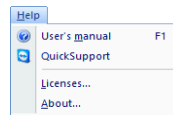

Figure 47 – Help menu
- **Help** – displaying the application version, installing licenses and browsing the electronic version of the user's manual (see Figure 47).